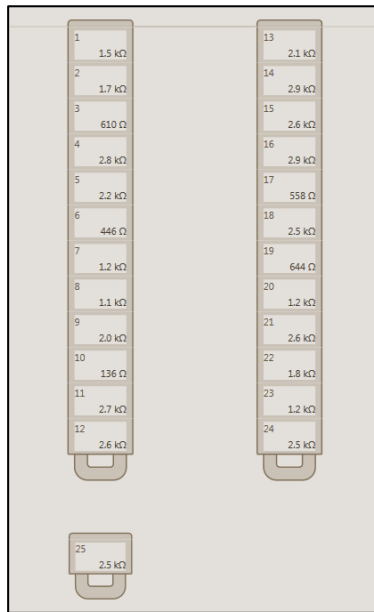

Figure 6.9: Impedances displayed on the 24 electrodes and CLS case (E25).
2. The impedances on the 24 electrodes and CLS case (E25) will be shown in the electrode display window (see Figure 6.9).